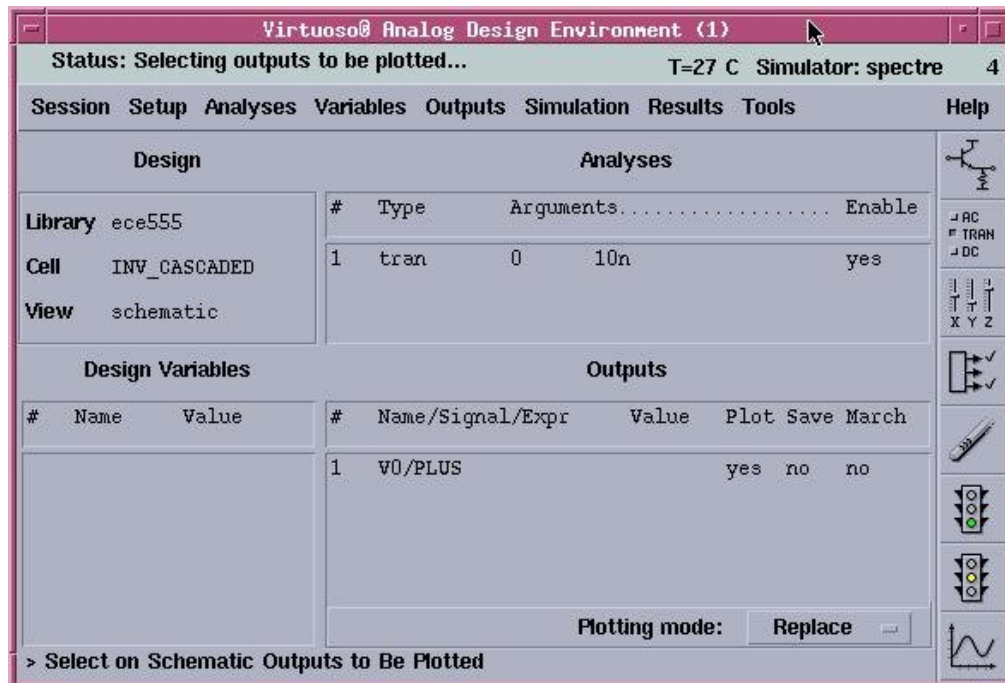

Fig. 5. Analog Environment Window
- The analog environment window after all the necessary set-up will resemble Fig. 5.